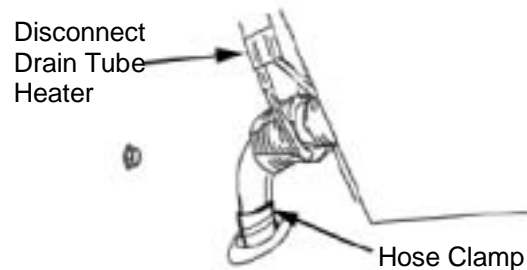

Figure 4
14. Remove the drain tube hose clamp. Disconnect the plastic drain tube hose from the drip pan elbow. Disconnect the drain tube heater. (See figure 4)